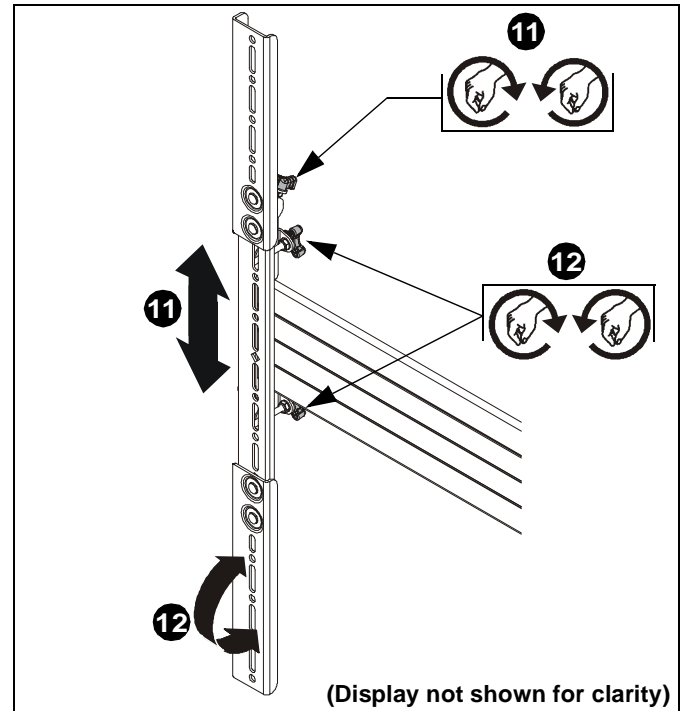

Figure 16
11. Use upper knob on back of interface brackets (J and K) to adjust the height of each display. (See Figure 16)
12. Use middle and lower knobs on back of interface brackets (J and K) to make plumb adjustments to each display (See Figure 16)